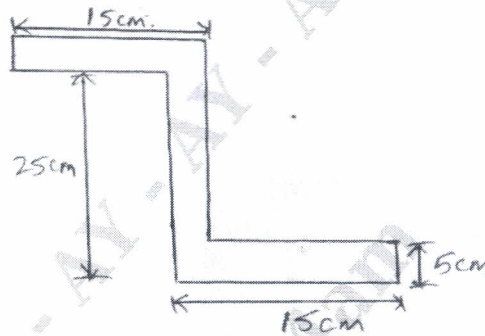

Fig. Q1 (b)
- b. The dimension of the stringer of an Aircraft wing is as shown in the Fig. Q1 (b) below. Find out the point where bending stress is maximum. Take $M_x = 10 \text{ kNm}$, $M_y = 20 \text{ kNm}$. (10 Marks)